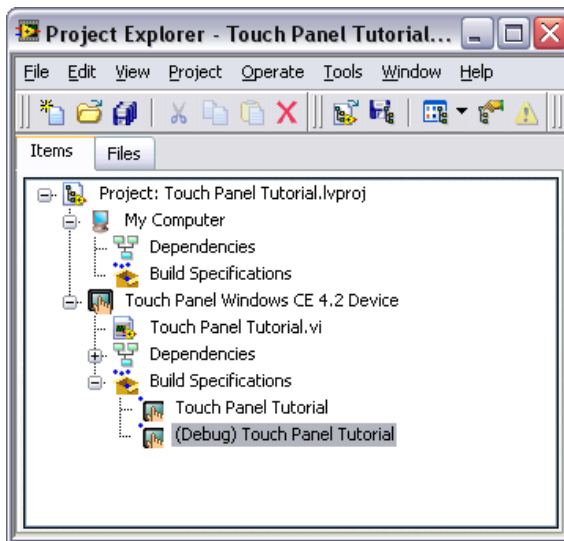

Figure 8. Two Touch Panel Build Specifications in the Project Explorer Window
7. Click the **OK** button. The build specification you just created appears in the **Project Explorer** window as shown in Figure 8.